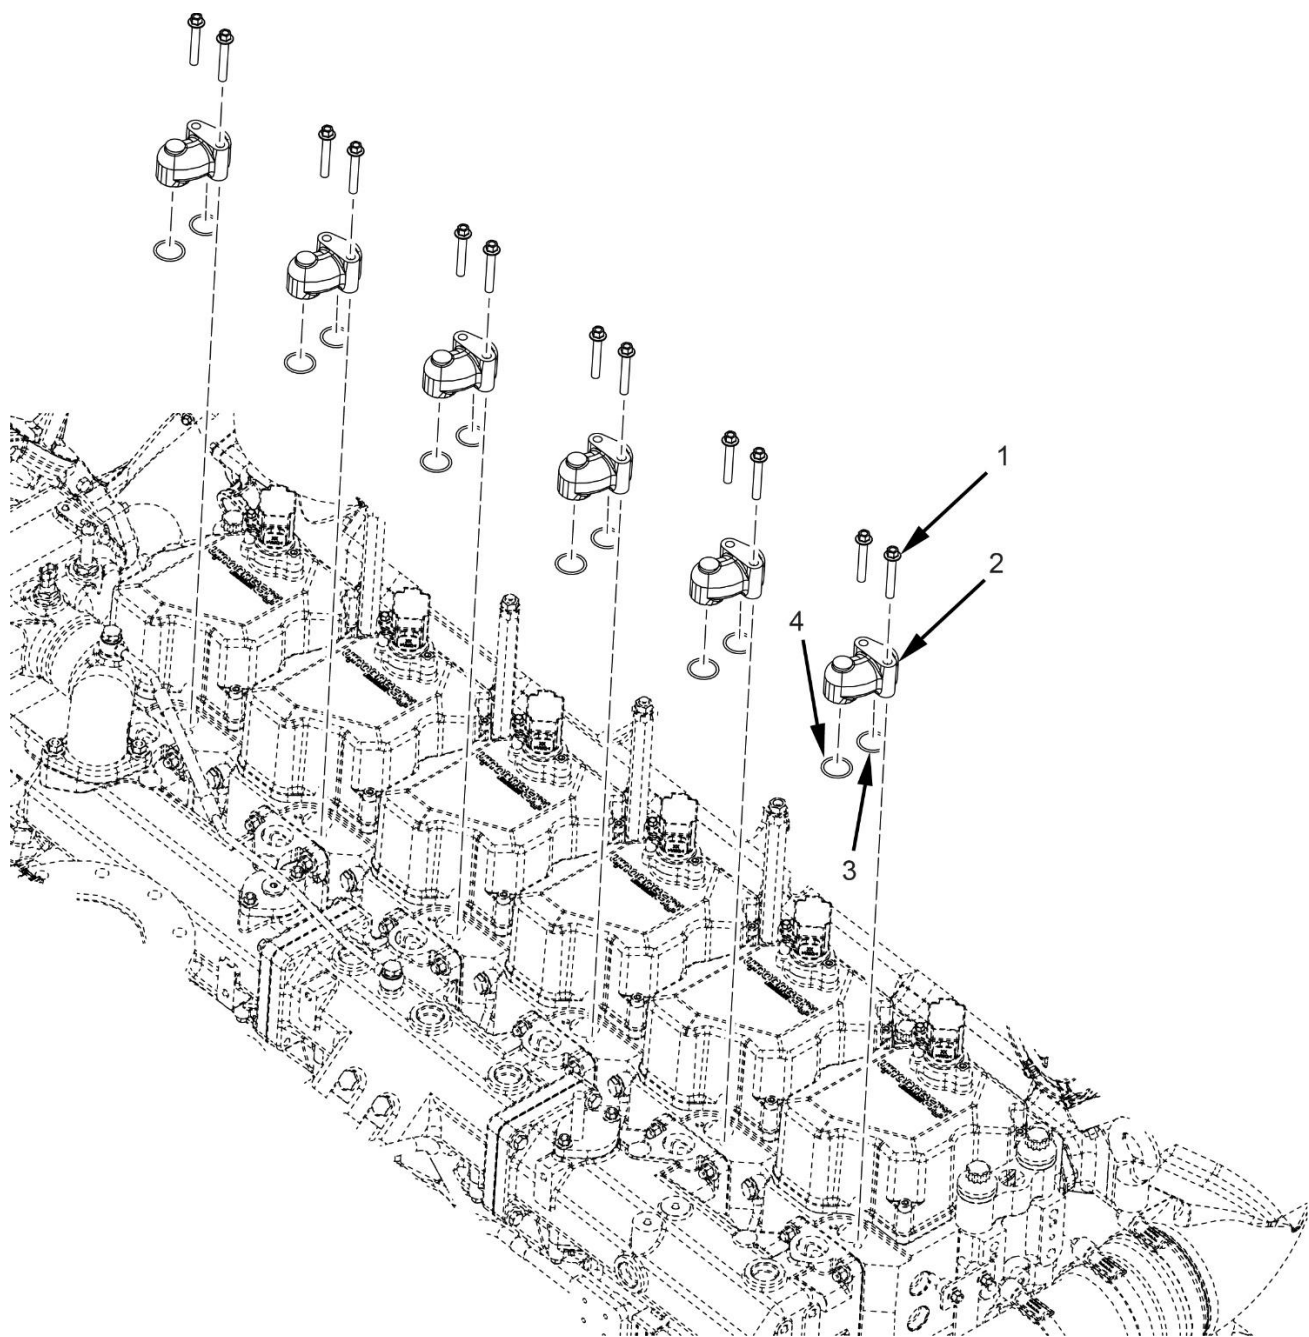

Figure 133. Water Outlet Pipe Assembly
2. Remove all bolts (Figure 133, Item 1).
3. Remove the pipes (Figure 133, Item 2).
4. Remove all O-rings (Figure 133, Items 3 & 4).
2. Insert the O-rings (Figure 133, Items 3 & 4) on top of the cylinders.
3. Insert the pipes (Figure 133, Item 2).
4. Insert and torque the bolts (Figure 133, Item 1).